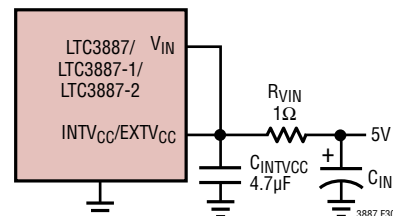

Figure 30. Setup for a 5V Input
For applications where VIN is 5V, tie the VIN and INTVCC pins together and tie the combined pins to the 5V input with a 1Ω or 2.2Ω resistor as shown in Figure 30. To minimize the voltage drop caused by the gate charge current, a low ESR capacitor must be connected to the VIN/INTVCC pins. This configuration will override the INTVCC linear regulator and will prevent INTVCC/EXTVCC from dropping too low and will minimize the chip power consumption. Make sure the INTVCC/EXTVCC voltage exceeds the RDS(ON) test voltage for the MOSFETs which is typically 4.5V for logic level devices. The UVLO on INTVCC/EXTVCC is set to approximately 4V.